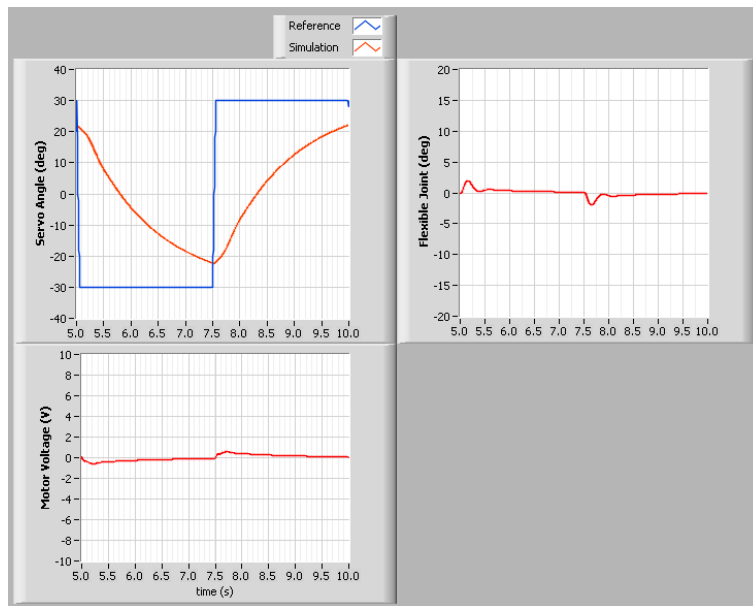

Figure 3.4: Default Simulated Closed-Loop Response
- Go the *Simulation* tab to simulate the closed-loop response with the gain generated back in the *LQR* tab. The simulated response is shown in Figure 3.4